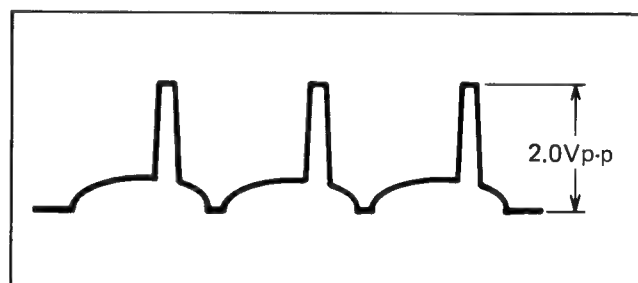

Fig. 5
- Adjust the beam control VR605 so that signal clipping occurs at 2.0 volts peak-to-peak. (See Fig. 5.)